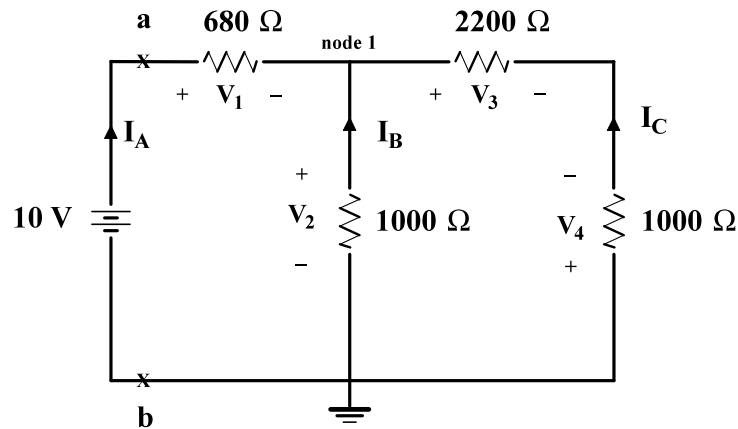

Figure 1.15: Circuit for Prelab Exercise, Part 2PE.
Part 3PE: Consider the circuit shown in Figure 1.15.
- (b) Find I_A as shown in Figure 1.15. Using this current, find R_{ab} from $R_{ab} = 10 / I_A$.